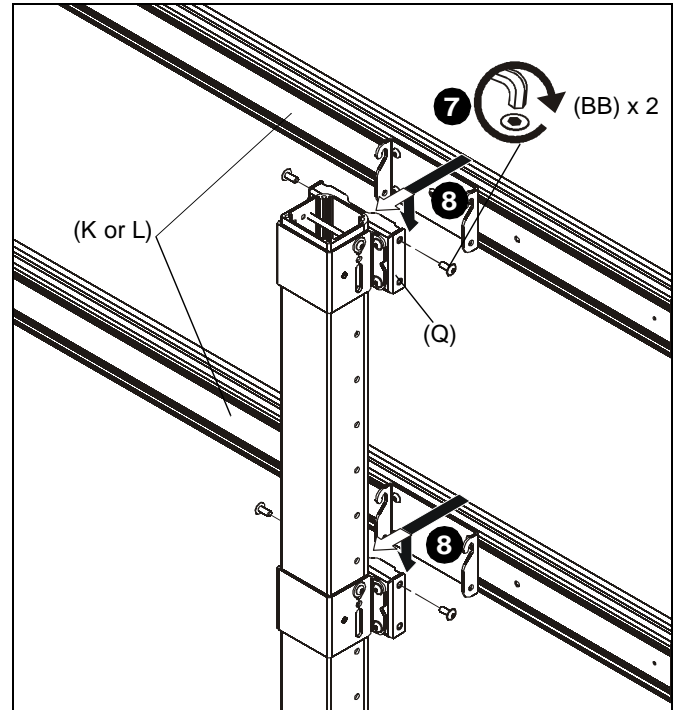
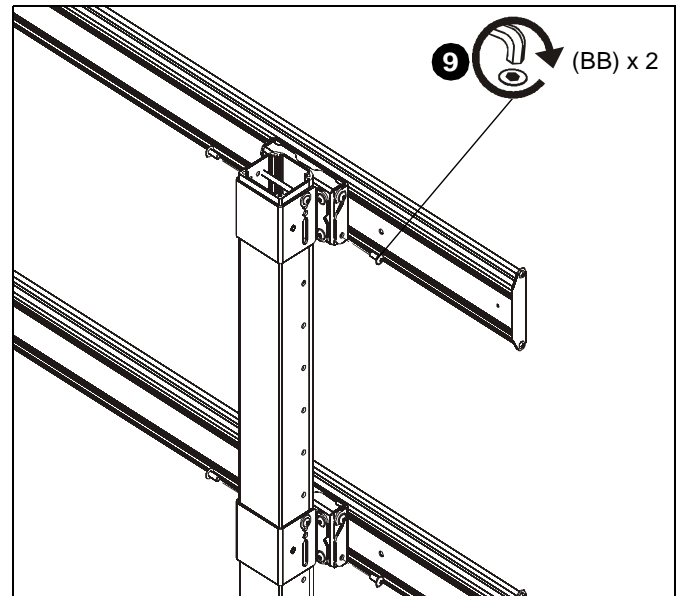

Figure 9
Figure 10
- Install two 5/16-18 x 3/4" button head flange screws (BB) into the top holes on each quick connect base (Q). (See Figure 9)
- Hang rails (K or L) into screws installed in previous step to quick connect bases (Q). (See Figure 9)
**IMPORTANT ! :** If installing the triple display rail (L), install rail to left and center columns so that add-on rail can be installed to right column. See Add-On Rail Installation section for details.
- Install two 5/16-18 x 3/4" button head flange screws (BB) into the lower holes on each quick connect base (Q) to secure rails to quick connect bases. (See Figure 10)
- Tighten all 5/16-18 x 3/4" button head flange screws (BB).